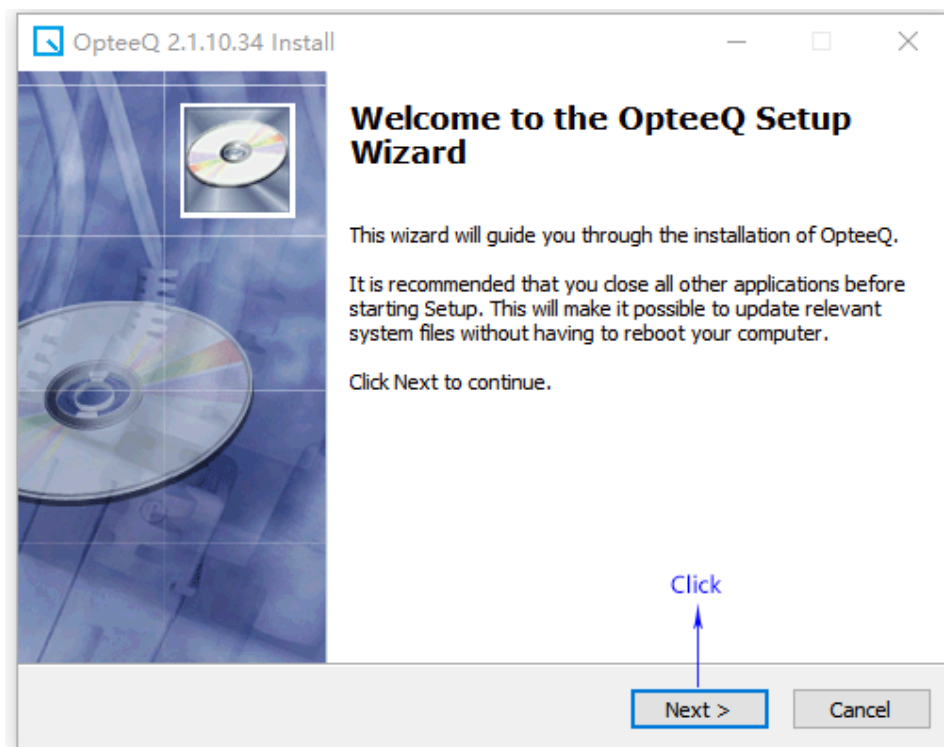

Figure 1.3: Step 3
Step 3: Click "Next" in the pop-up interface, as shown in Figure 1.3.